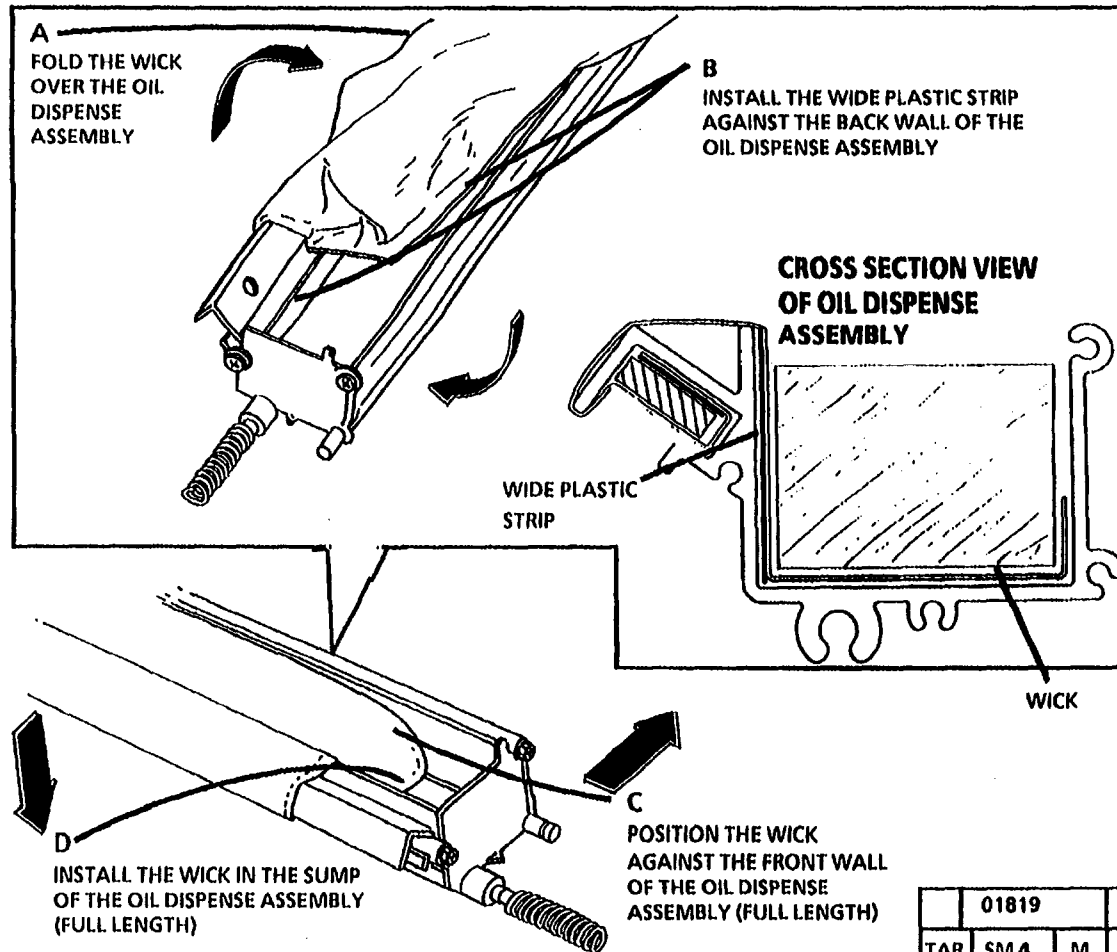

Figure 3. Installing the Wick
2. (Figure 3): Install the Wick.